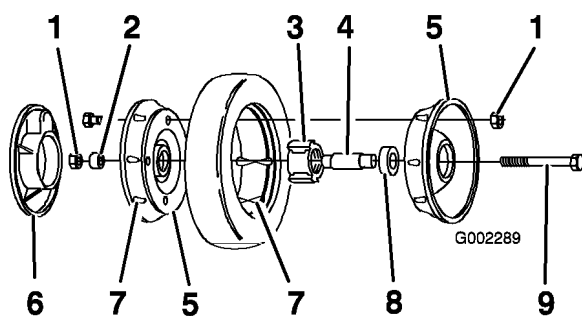

Figure 28
3. Remove the bolt, the wheel spacer, and the locknut mounting the wheel to the pivot arm (Figure 28).
4. Separate the wheel halves from the tire by removing 4 cap screws and 4 locknuts (Figure 28).
Note: If you remove the bearings from the bearing/hub assembly, remove them by pressing on the bearing spacer (Figure 28).
1. Position the tire onto one wheel half, aligning the lugs on each (Figure 28).
2. Place the bearing/hub assembly into the center hole of the wheel half. Ensure that the legs of the hub are positioned over the flange of the hole (Figure 28).
3. Place the other wheel half onto the bearing/hub assembly, aligning the wheel and the tire lugs and the mounting holes (Figure 28).
4. Using 2 fully threaded screws or bolts (1/4-20 x 1.50 inch) and non-locking nuts, loosely secure the wheel halves together. Mount the screws or bolts in the opposing holes (Figure 28).
5. Check the alignment of all parts and tighten the screws, alternating from side to side for a uniform fit, until the wheel halves are drawn together (Figure 28).
6. Install the 2 bolts and 2 locknuts previously removed in the remaining holes in the wheel halves and tighten. Remove the 2 long screws or bolts and replace them with 2 bolts and 2 locknuts (Figure 28).
7. Install the wheel to the pivot arm with the bolts, a spacer, and a locknut. Ensure that the spacer is positioned between the wheel hub and the pivot arm (Figure 28).